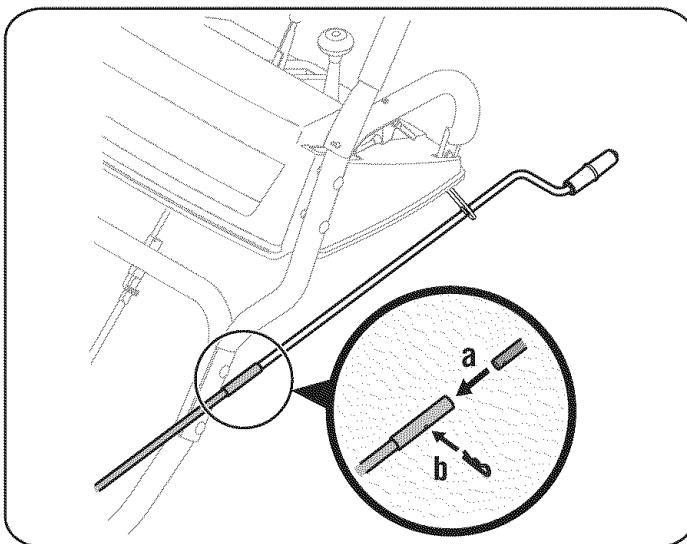

Figure 3
- a. Remove the internal cotter pin from the upper chute crank. Slide the upper chute crank into the sleeve on the lower chute crank. See Figure 3.
- b. Align the hole in the upper chute crank with the hole in the sleeve (If necessary, use a pair of pliers to assist in aligning holes). Insert the internal cotter pin through the holes to secure the chute crank. See Figure 3.